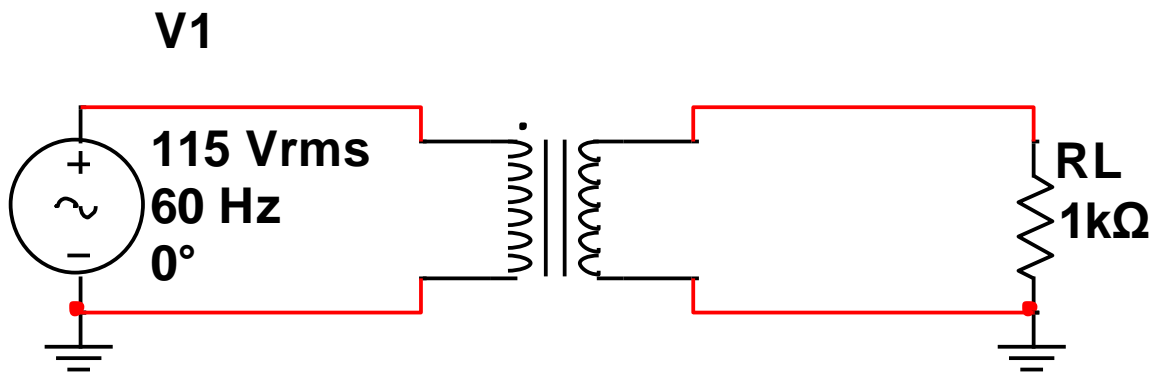

Figure 3 – Step Down Transformer
1. **Build** the circuit in **Figure 3** in Multisim.